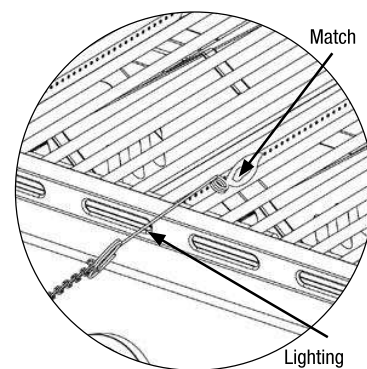

FIG. 2
8. If igniter does not light burner, use a lit match secured with the lighting rod (included with the grill) to light burners. Access the burners through the cooking grid and heat plates. Position lit match near side of burner (Fig. 2).